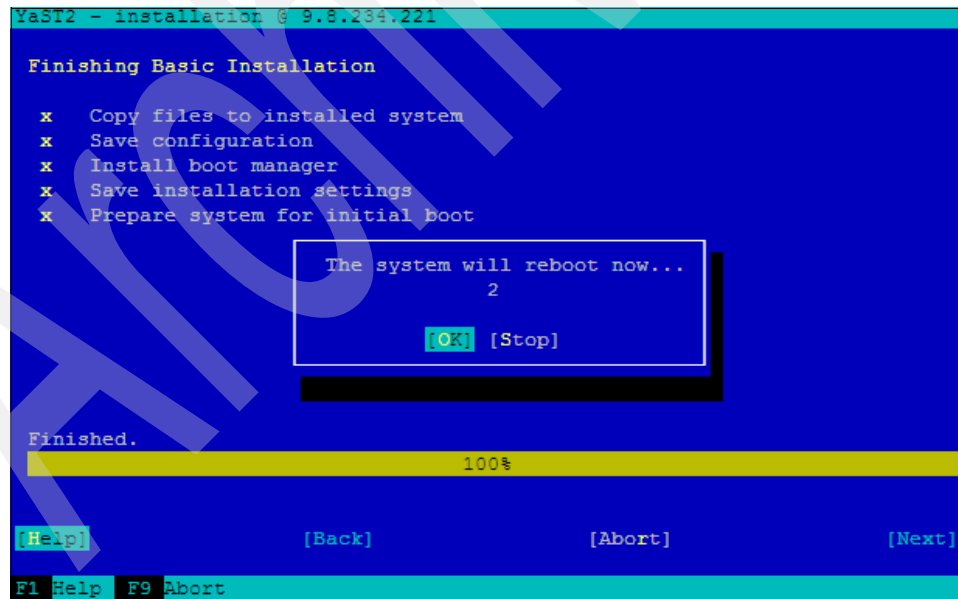

Figure 9-25 Reboot now
18. Boot the system. See Figure 9-25.